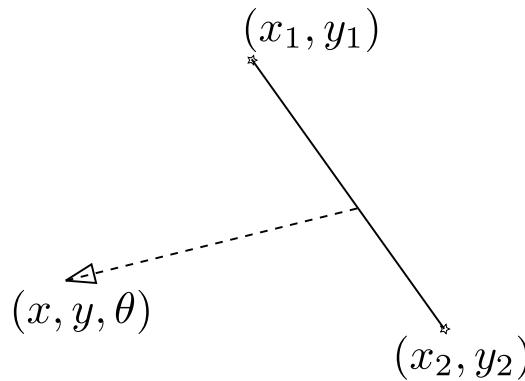

Figure 4: Distance to a segment defined by two points.
2. Compute the distance to the nearest wall. In the environment variable, the walls are defined by a list of points available in `envir.walls`. Fig. 4 shows a configuration where the sensor is at (x, y, θ) and is facing a wall defined by (x_1, y_1) and (x_2, y_2) . In this case, the distance to the wall is: